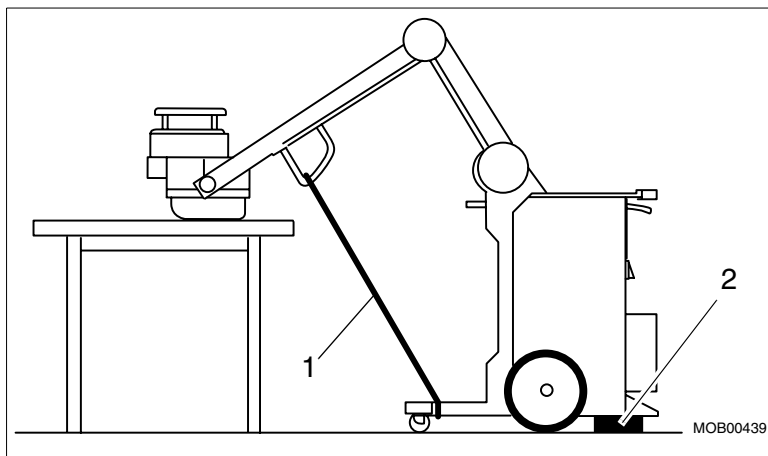

Fig. 17 Single tank positioning
22. Position the unit with the single tank resting on a table and put something soft between for protection (Fig. 17). If the arm and single tank does not remain in desired position, loosen the adjustment screw slightly (see step 26.) until the arm and single tank comes to rest on the table.
23. Secure the arm with the belts (included in the kit, pos. 1 / Fig. 17).
24. Put a piece of wood (included in the kit, pos. 2 / Fig. 17) under the operator's side of the unit. Make sure the parking brake is applied.